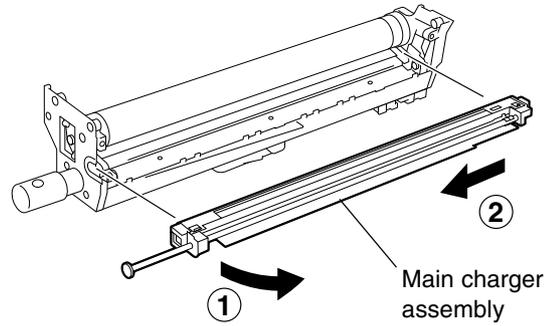

Fig. 3-4-4
5. Detach the main charger assembly. (See Fig. 3-4-4.)